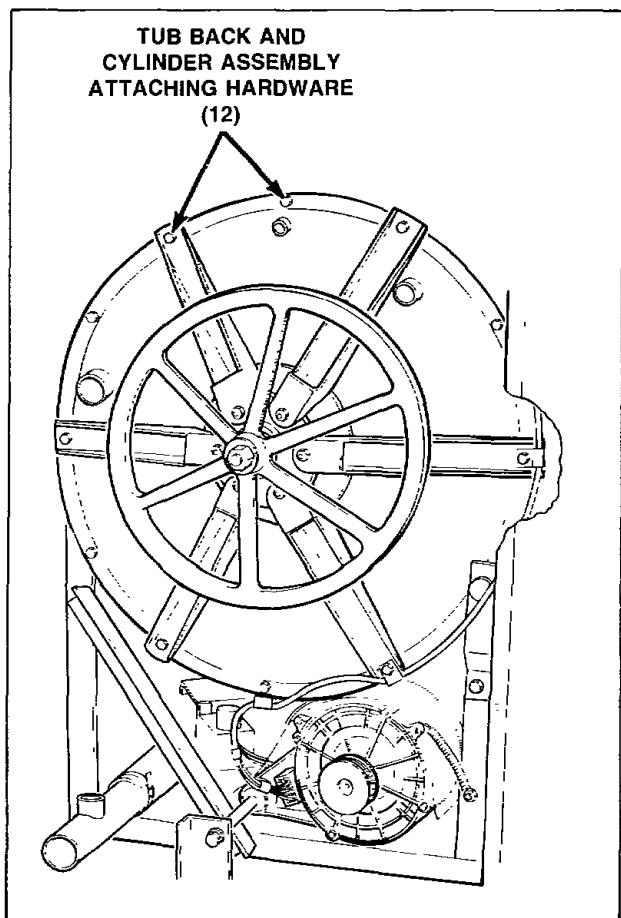

Figure 26
- l. Support the complete tub back and cylinder assembly and remove the hardware holding the assembly to the outer tub, *Figure 26*.